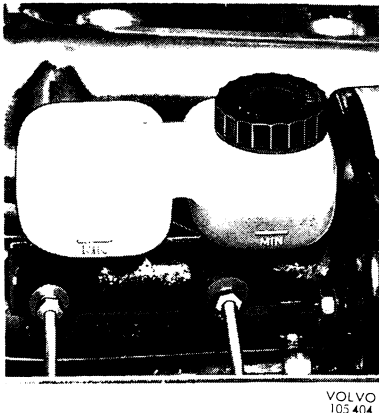

Fig. 1-16. Brake fluid container
2. Without removing the cap, check that the level in the brake fluid container is above the "Min" mark (see Fig. 1-16).